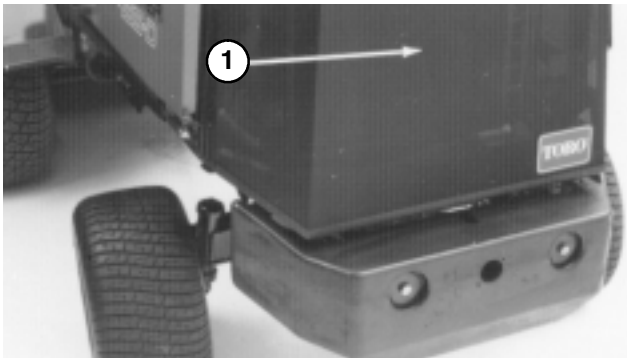

Figure 43
ENGINE COOLING SYSTEM (Fig. 43–44)
B. Unscrew knobs and remove rear screen (Fig. 43). Clean screen thoroughly.